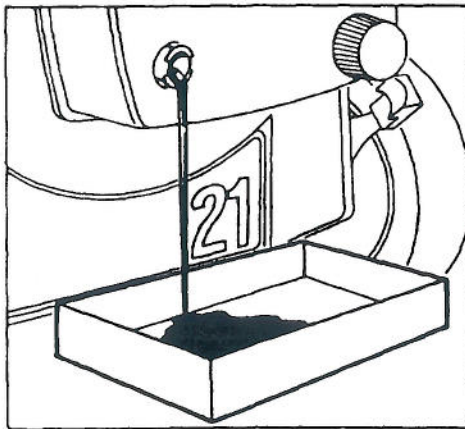

Figure 17
3. Remove dipstick. Tip mower forward and empty all oil into drain pan (Fig. 17). Tip mower down and up a few times to ensure oil drains completely.